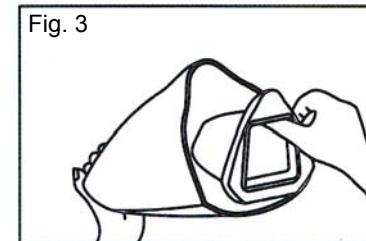

Fig. 3
- Verify that the dust cup filter is inside, then re-attach the dust cup container to the hand vacuum. (Fig. 3)